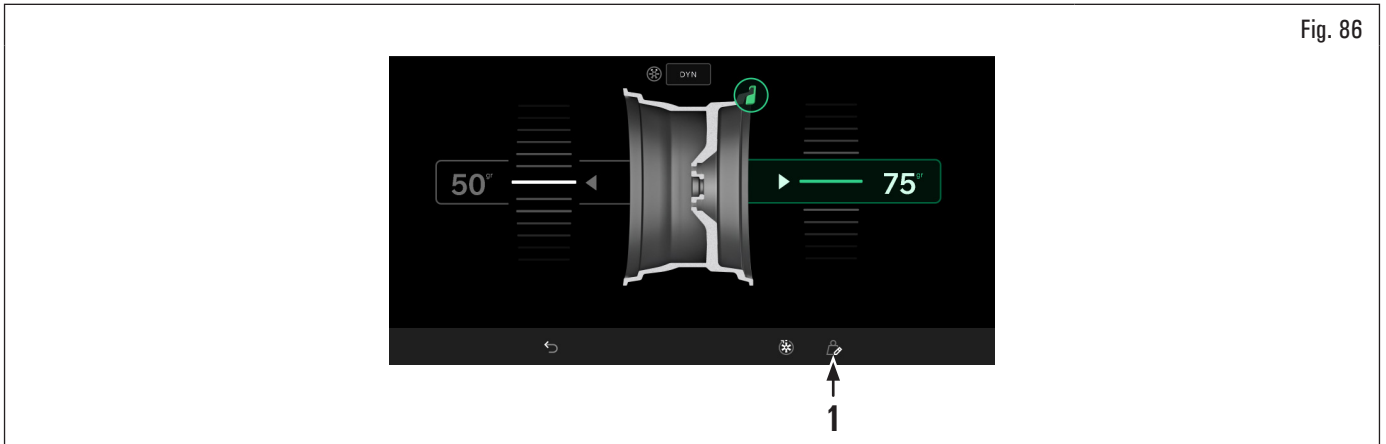

Fig. 86
Press the icon  (Fig. 86 ref. 1) to enter the value of the weights to apply.